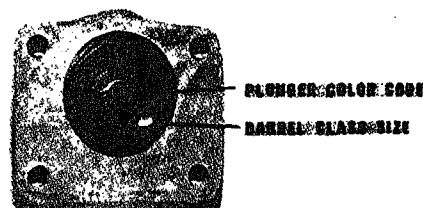

Fig. 507-12 PT (type G) MVS governor plunger and barrel
**Note:** Color code is marked on end of plungers. Barrel size is etched on end of barrel. Fig. 507-12.